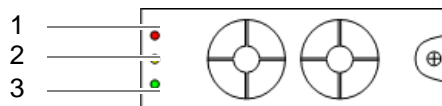

Figure 11.15 Front view of the rectifier module – indicators (LEDs)
6. Ensure that the "Power" LED (3) is lit and the "Major Alarm" (1) and "Minor Alarm" (2) LEDs are off, refer to Figure 11.15.